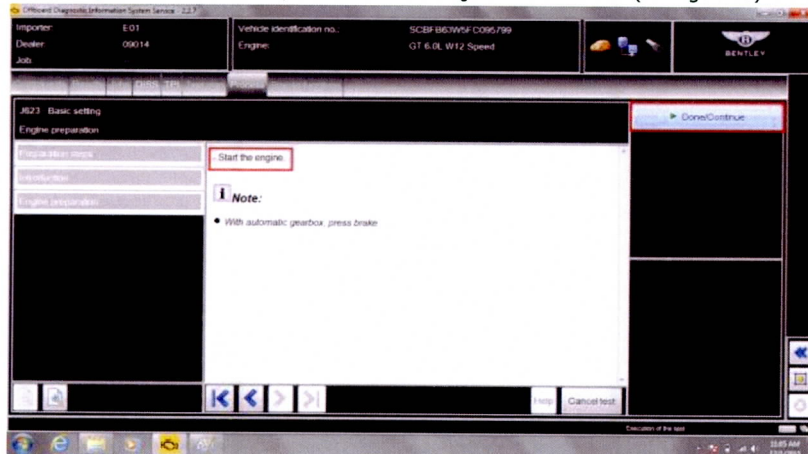

Figure 14
3. Follow screen prompts to start engine (see Figure 14)